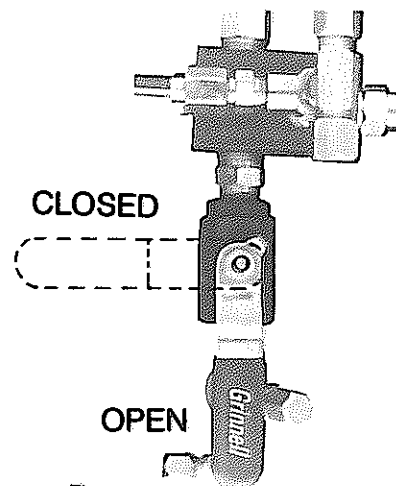

Fig. 11
1. Turn the ball valve to the "CLOSED" position, see **Fig. 11**; see also Walk-Around.
4. After cleaning bale chamber, turn the ball valve to the "OPEN" position, see **Fig. 11**. **NOTE:** Failure to do so will result in lack of tension pressure.